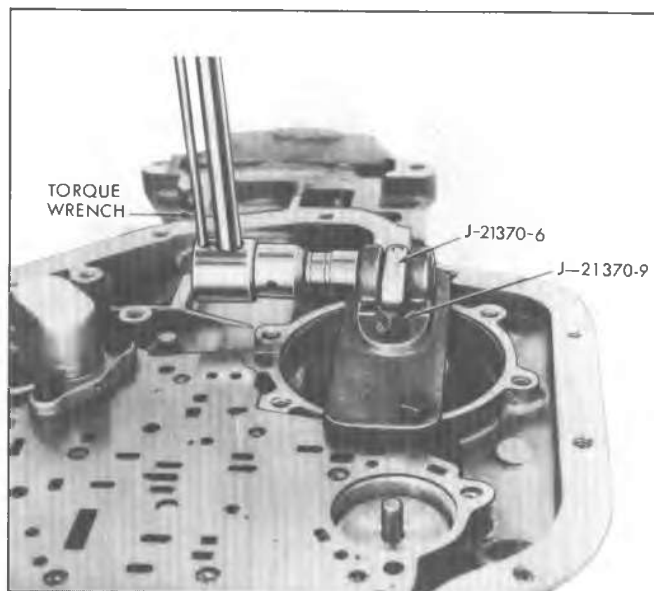

Fig. 7A-16C--Checking Rear Band Apply Pin, Models CB and CL
c. Apply 25 foot-pounds torque to the lever on Tool J-21370-6 (Fig. 7A-16C). Selection of the proper rear band apply pin is determined by the relation of the flat on Tool J-21370-9 to the flat machined area around the hole on Tool J-21370-6.